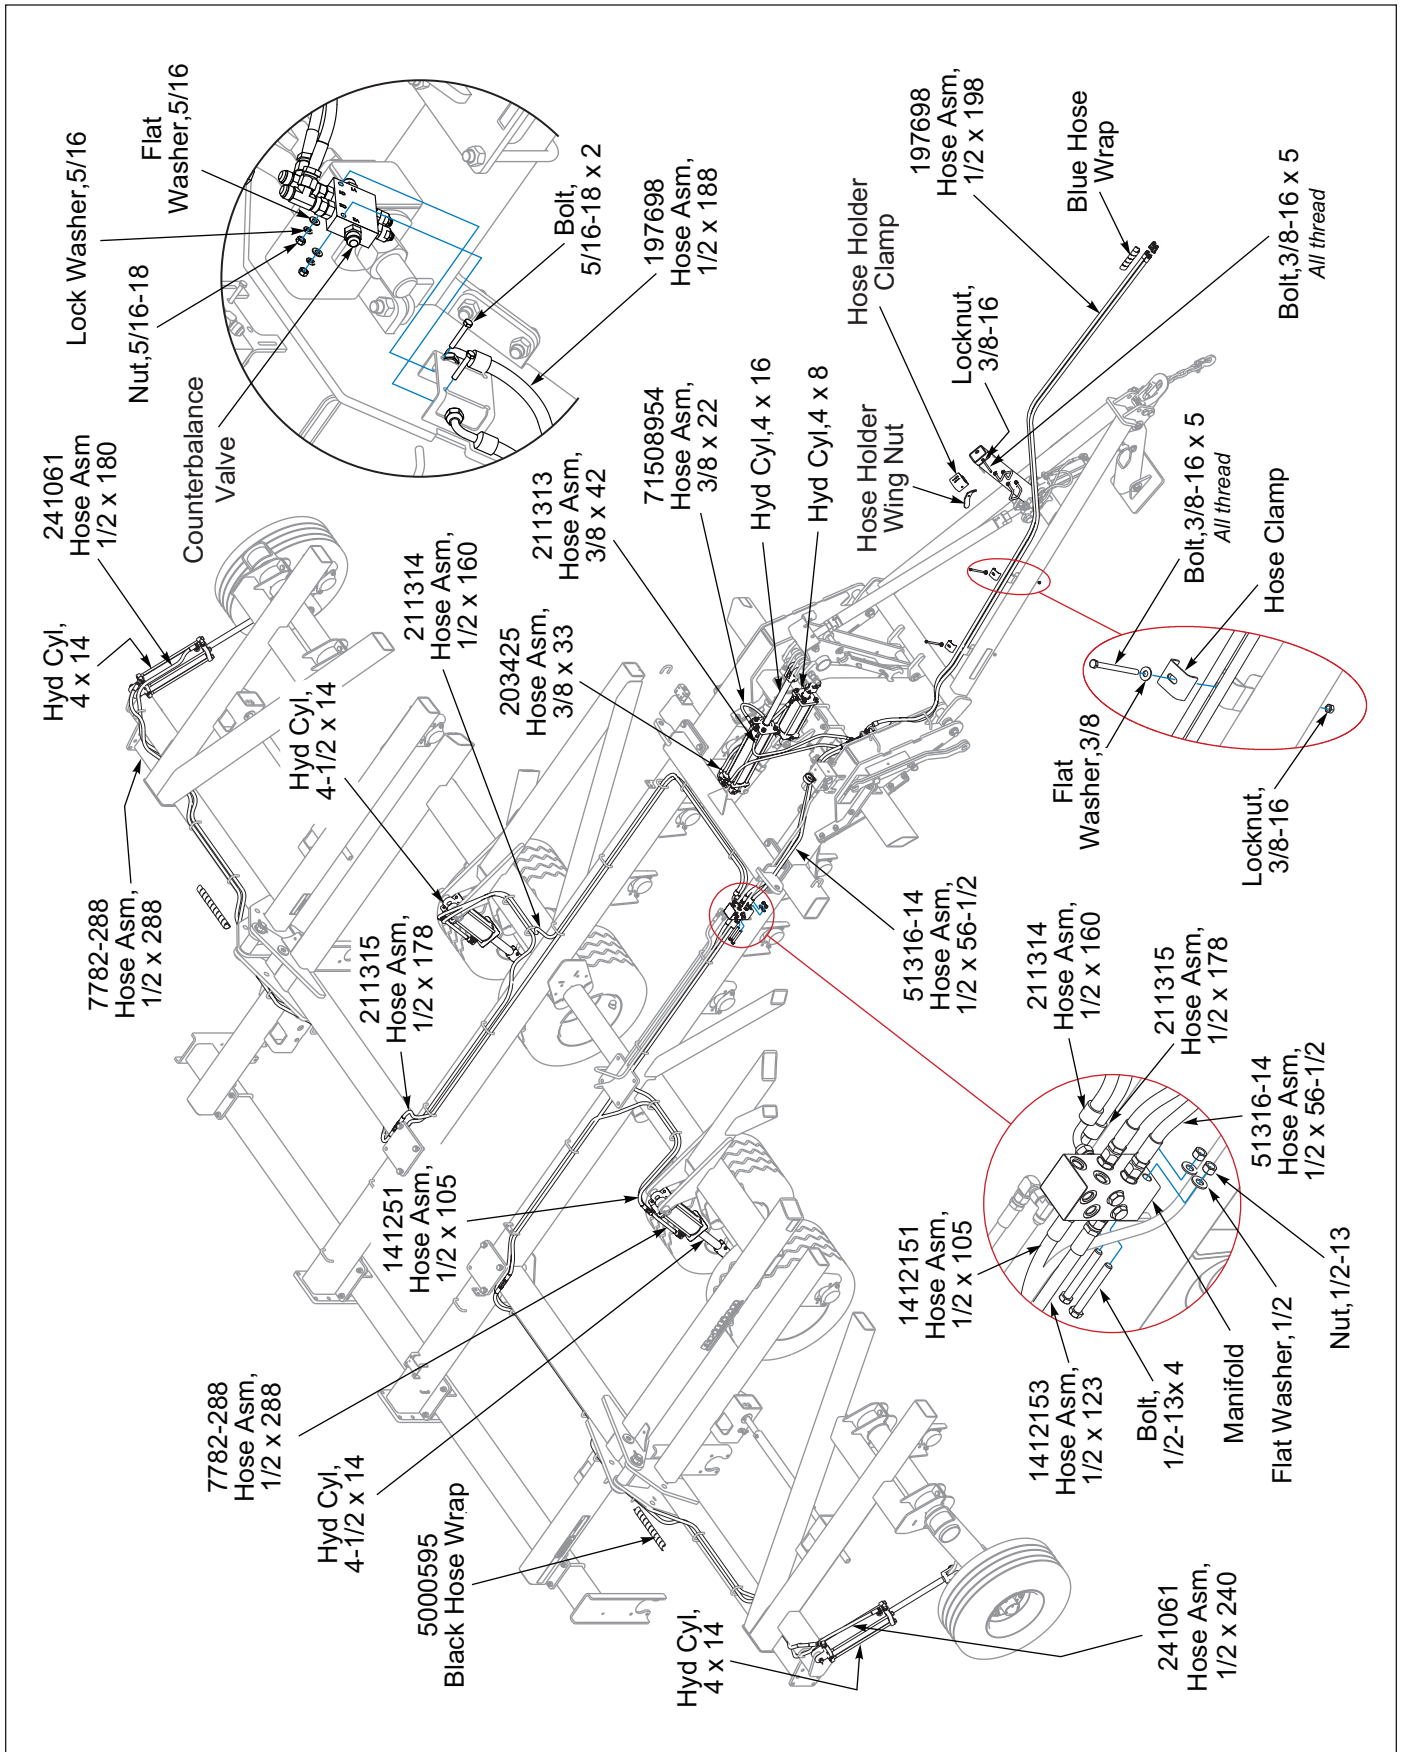

Figure 2-25: Hydraulic Lift Layout
3. **Lift Circuit - Blue - See Figures 2-25 and 2-26.** The Lift Circuit with machine raised, requires approximately 4.9 gallons of hydraulic oil and with machine lowered, requires 4.5 gallons of hydraulic oil.
5. Install Restrictor and Branch Tee into the base end and O-Ring Branch Tee into the rod end of the 4 x 16 cylinder. **See Figures 2-25 and 2-26.**
12. Assemble Wing Lift Cylinder Hoses. **See Figures 2-25 and 2-26.**